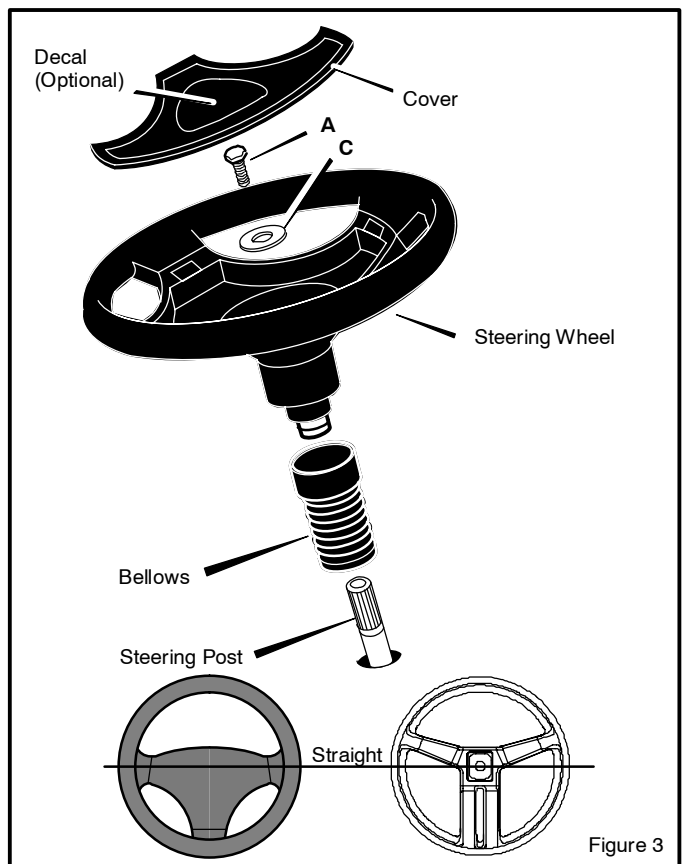

Figure 3
2. Slide the **bellows** over the **steering post** (Figure 3).
NOTE: Before attachment of the steering wheel, make sure that the front wheels point forward and are straight. For proper alignment of the steering wheel, see Figure 3.